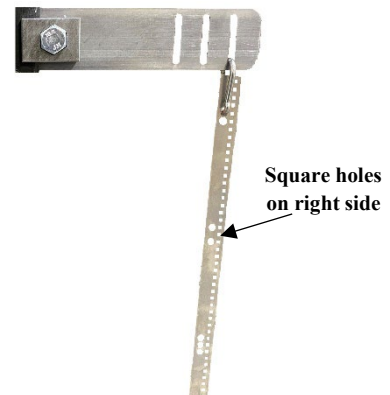

Figure 22: Top Rail Fastening Plate with Carabiner and Tape
- c. Ensure the tape is correctly oriented with the square holes on the right side of the tape. See Figure 22